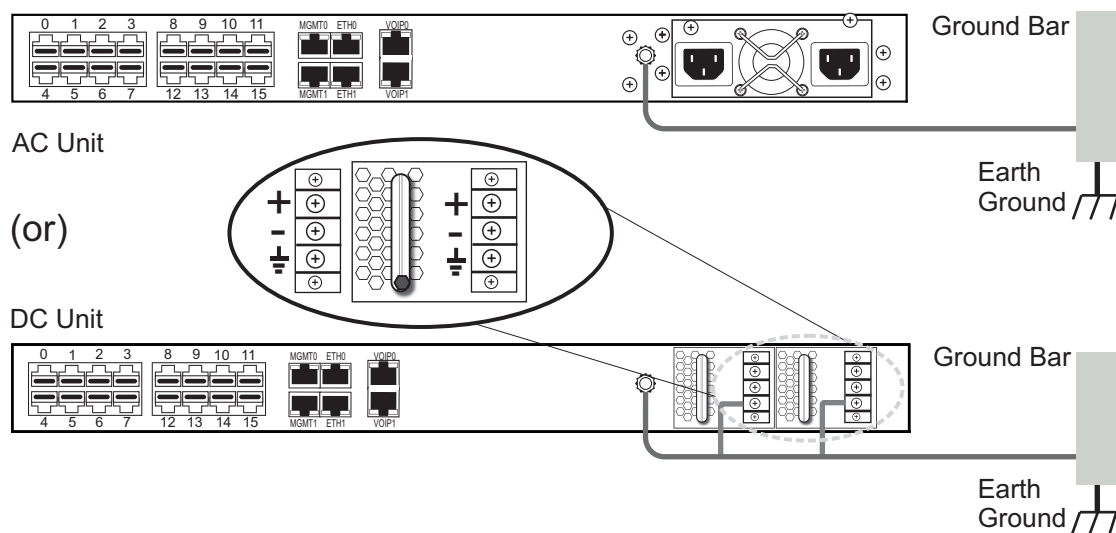

Figure 2.12 Ground Connection
- Do NOT daisy chain the ground between equipment. Use a ground bus bar, as show in figure 2.12 on page 29.
1. Connect one end of a ground wire to the ground lug of the TSBC5000 series. See figure 2.12 on page 29.